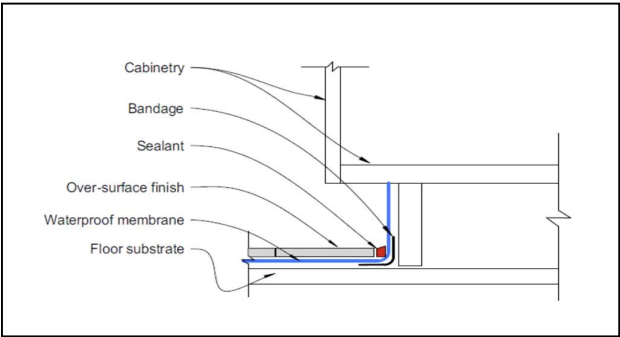

Figure 17: Waterproof membrane system installed after cabinetry
- ✓ Figure 17: Waterproof membrane system installed after cabinetry